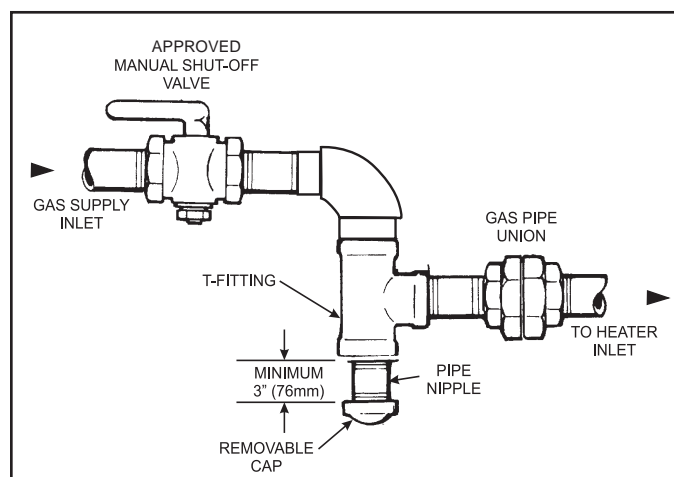

Figure 9. Proper Design for a Sediment Trap/Drip Leg
- Install a sediment trap (drip leg) ahead of the gas controls, as shown in Figure 9. Fit the trap with a threaded cap which can be removed for cleaning.